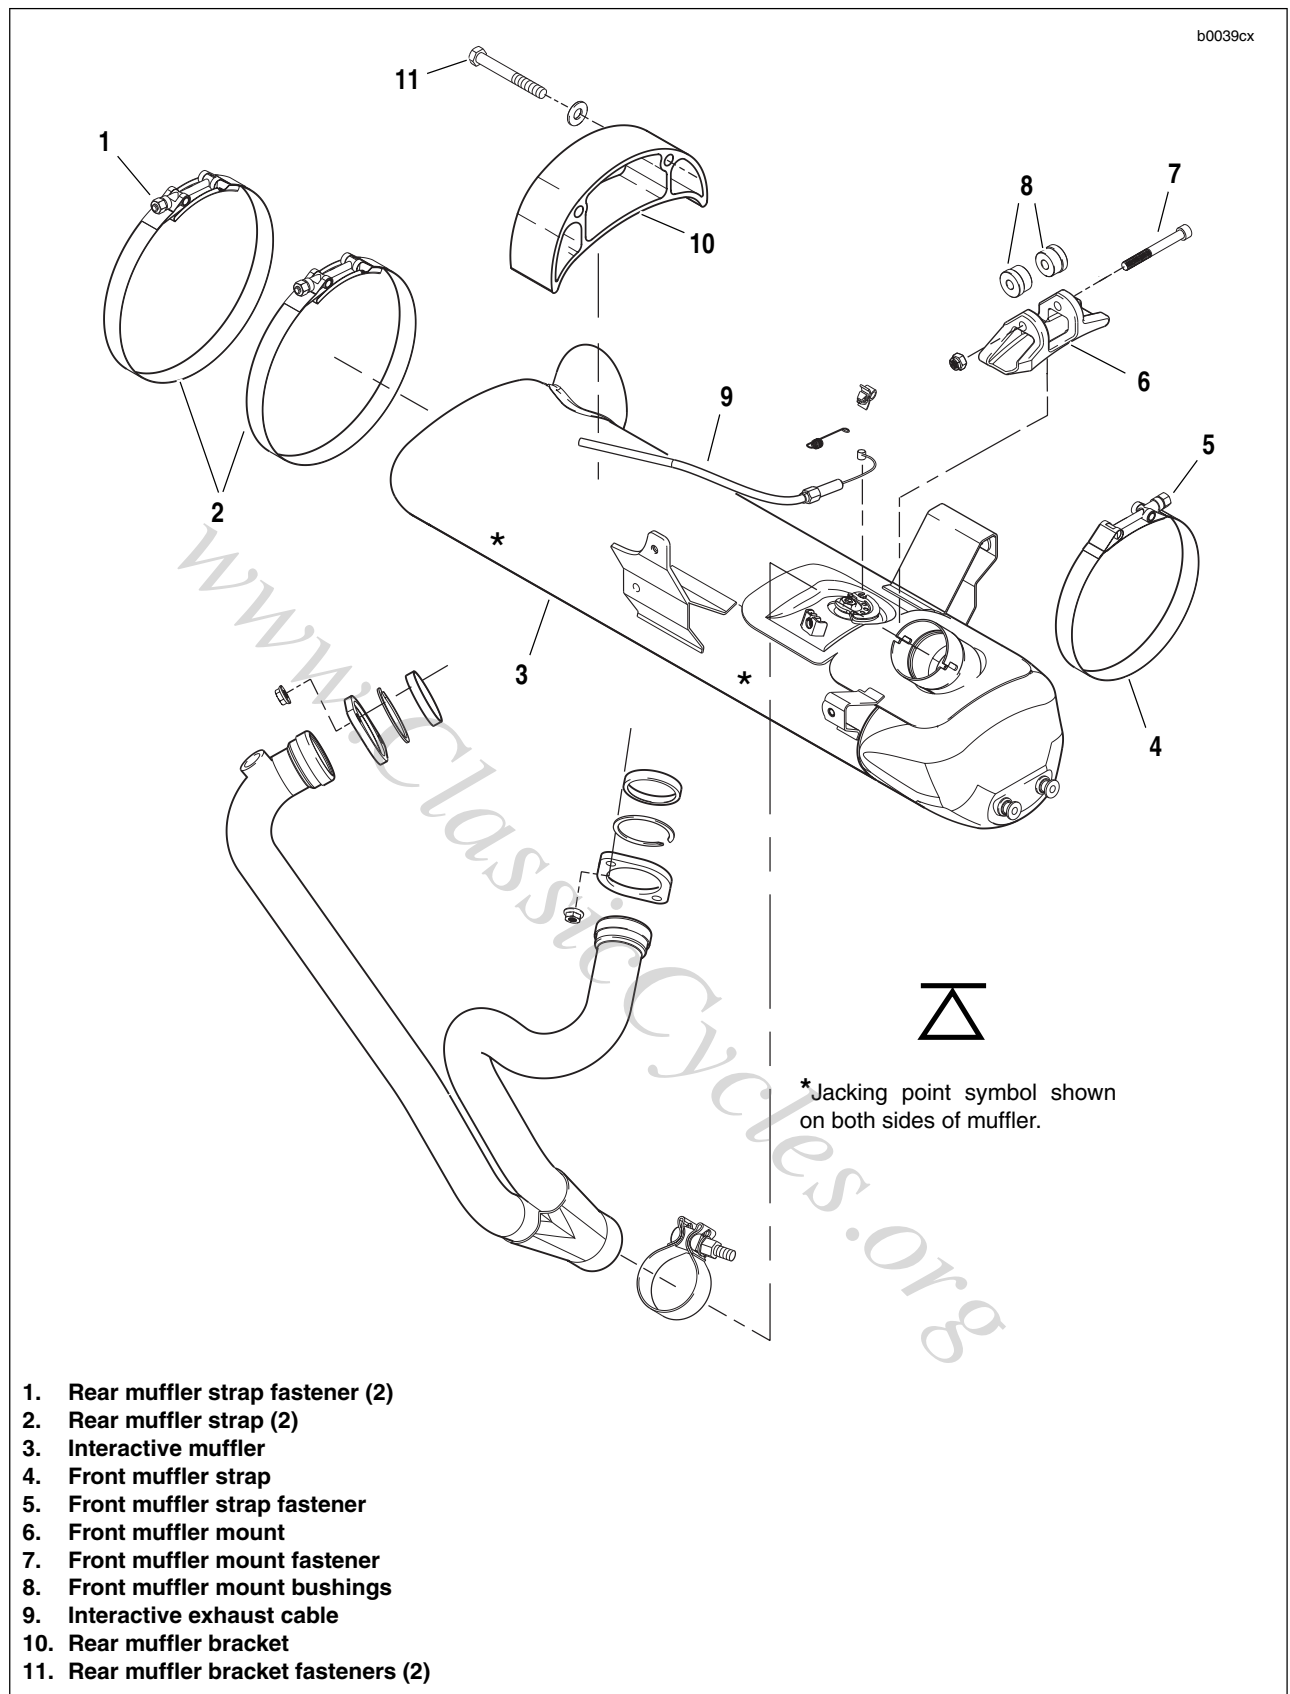

Figure 2-109. Muffer Assembly
4. See Figure 2-109. Loosen front muffler mount fastener (7) but do not remove.
**Front:** Remove front muffler strap fastener (5). Front strap will not be removed.
2. See Figure 2-109. Remove front muffler mount fastener (7).
3. Remove strap (4) from front muffler mount (6).
4. Remove front muffler mount bushings (8) by punching out with suitable tool.
4. See Figure 2-109. Remove rear muffler bracket fasteners (10).
5. Slide oil lines from rear muffler bracket and remove rear muffler bracket (9).
1. See Figure 2-109. Slide rear muffler bracket (9) over oil lines.
2. Install rear muffler bracket fasteners (10) and tighten to 32-36 ft-lbs (43-49 Nm).
1. See Figure 2-109. Install front muffler mount bushings (8).
2. Install **new** strap on front muffler mount (6).
3. Install front muffler mount fastener (7) loosely. **Do not tighten.**
2. See Figure 2-109. Loosely install **new** front and rear muffler straps (2, 4).